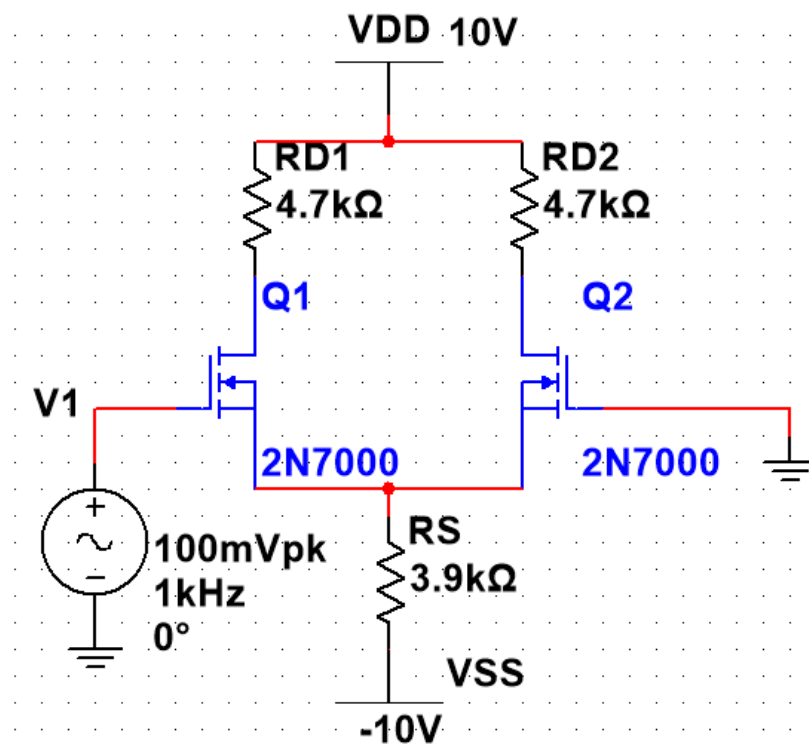

Figure 1. MOS Differential amplifier circuit diagram
- Implement the MOS differential pair circuit shown in figure 1.